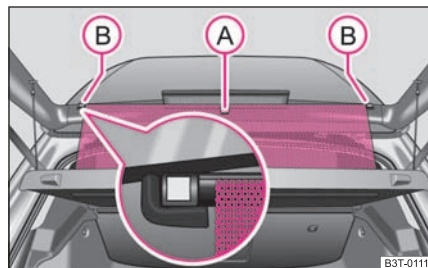

Fig. 56 Unroll the sun screen
- Pull the sun screen at the handle ① and hang it in the bracket ② ⇒ fig. 56.